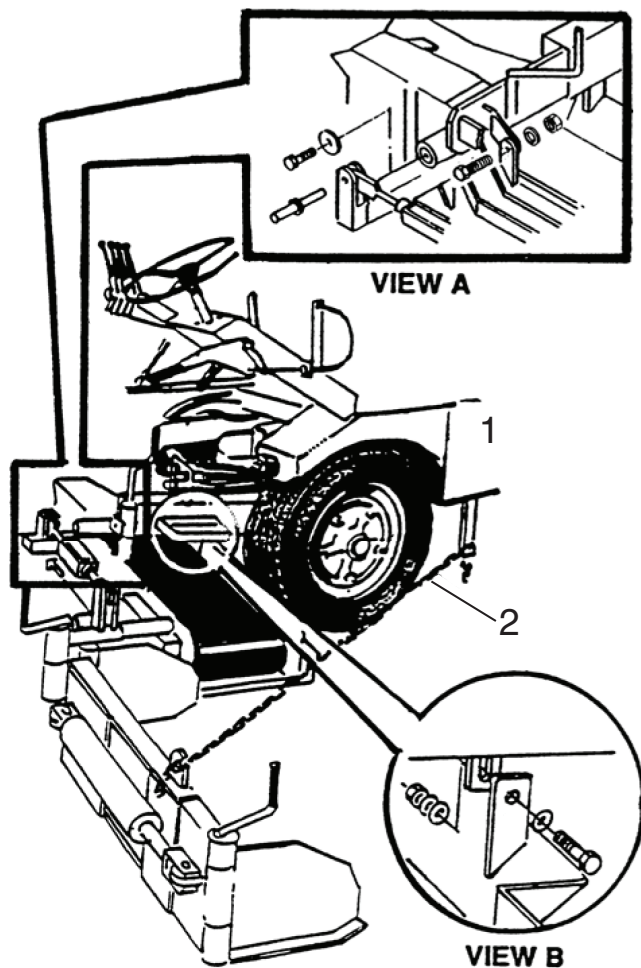

Figure 4-21. Shoulder Strike-off Attachment
1. Find working angle of strike off assembly and attach the chain to the bracket under battery box. See **Figure 4-21**.